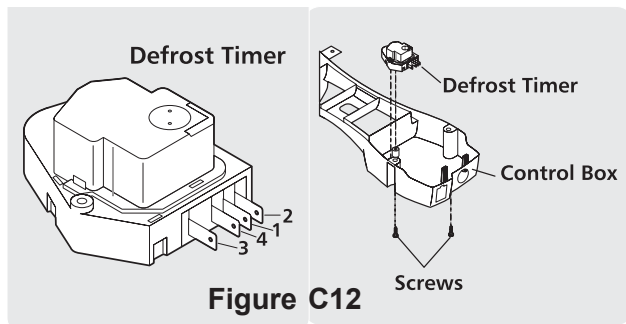

Figure C12
5. Remove two screws securing timer to control housing. (See Figure C12.)